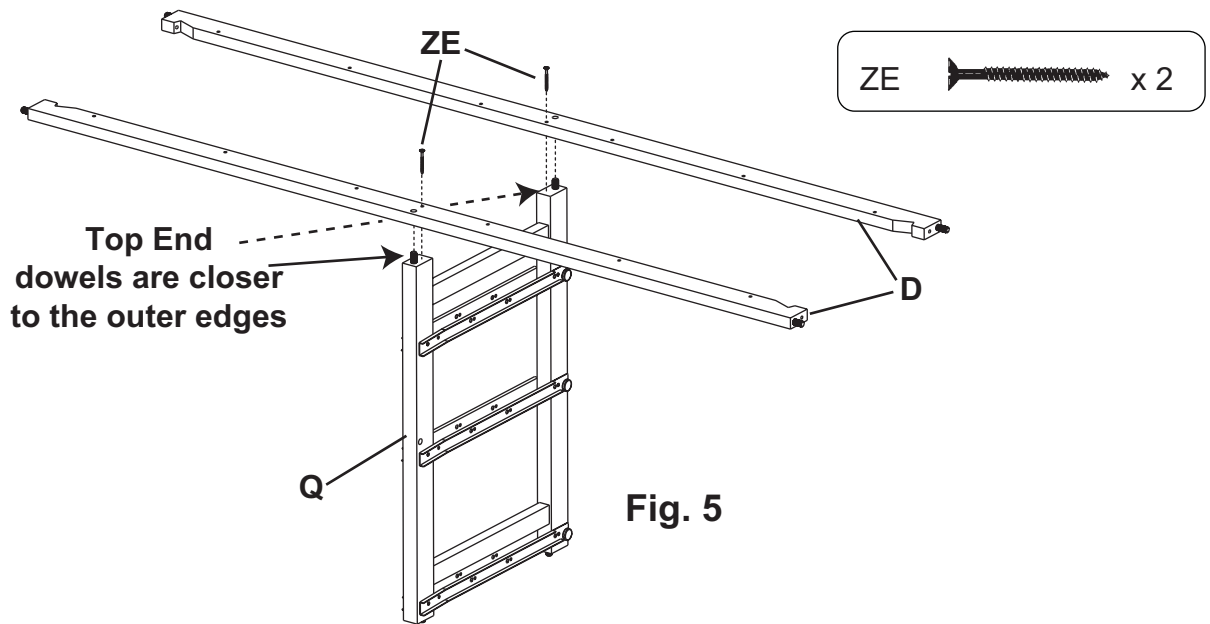

Fig. 5
5. Position the Divider Assembly (Q) with the top end up as shown in Figure 5. With the notches facing inward, insert the dowels from the divider assembly into the center dowel holes of the Sleepers (D). Do not glue. Tap in with a rubber mallet. Position the Sleepers (D) so they are flush with the outer edges of the divider. Sleepers must be parallel to each other and perpendicular to the Divider Assembly (Q). Using the predrilled holes in the Sleepers as guides, secure with two #8 x 1-5/8" Black Screws (ZE). See Figure 5.